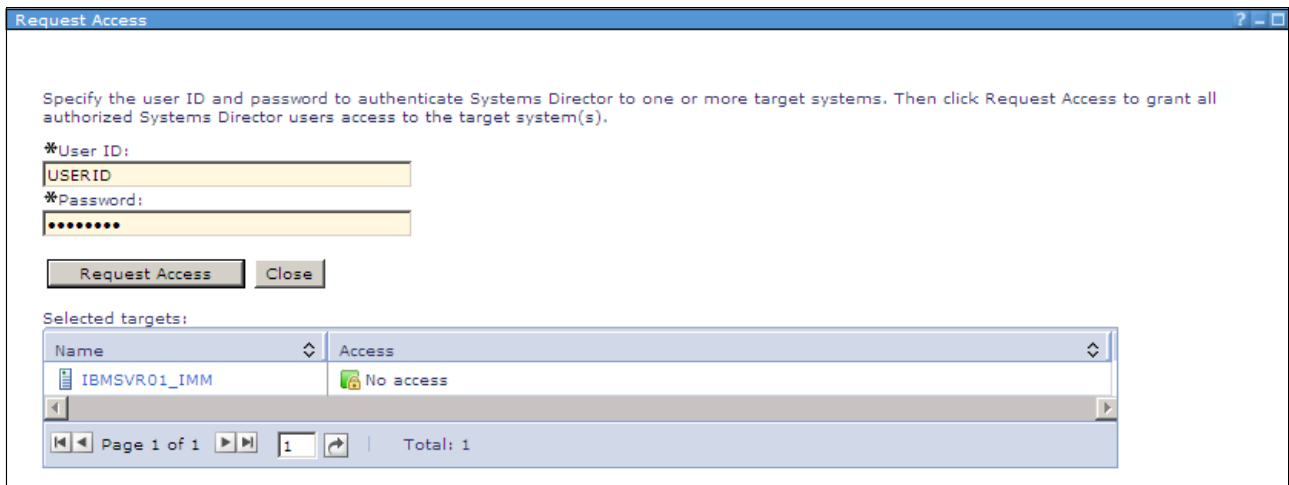

Figure 9-23 Request Access user credentials pane
11. The Request Access pane opens, as shown in Figure 9-23. Enter the user name and password of an account that has supervisor access on the IMM in the text boxes provided and click **Request Access**.